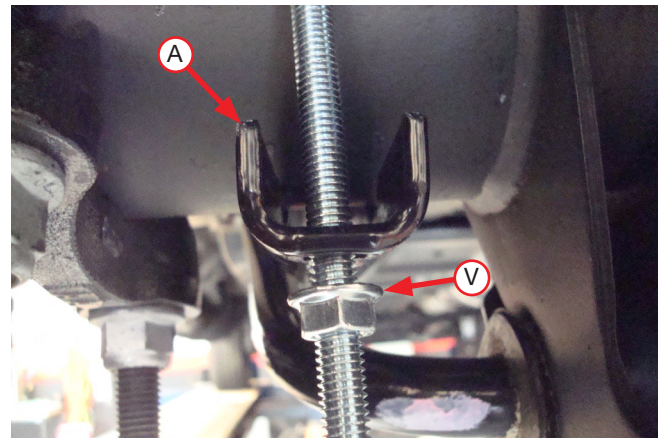

Fig. 33
If you have a sway bar, insert the carriage bolts through the clamp bar (A) as you set the assemblies into position over the axle (see Fig. 33).
- If not already completed (sway bar noted earlier), set the lower clamp bars (A) over the carriage bolts located under the axle (Fig. 33). Attach with the 3/8" serrated flange lock nut (V). Evenly torque the lower clamp bar hardware to 16 lb.-ft. (22Nm).